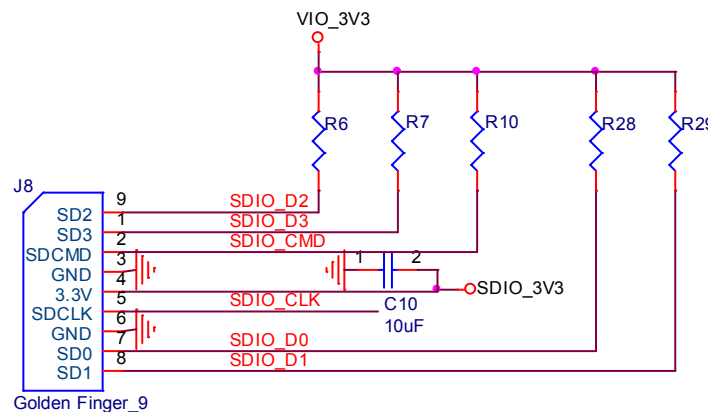

Figure2. Wi-Fi verification connection interface to Host SDIO
- ❖ Refer to Figure2 SDIO pin definition connects the J8 interface of AP6XXX evaluation board to Host SDIO control interface.